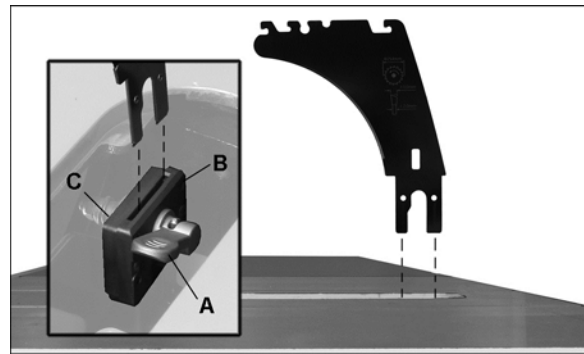

Figure 6-9
See Figure 6-9.
4. Through the saw table opening, pull up lever (A, Figure 6-9). The floating clamp block (B) will move away from the fixed block (C), leaving a gap.
The clamping block (Figure 6-9) is adjusted at the factory and no further adjustment of blade guard and riving knife assembly should be necessary. However, proper alignment is very important. Before operating table saw, read *sect. 8.3, Riving knife alignment*, to verify and follow the adjustment procedure if necessary.